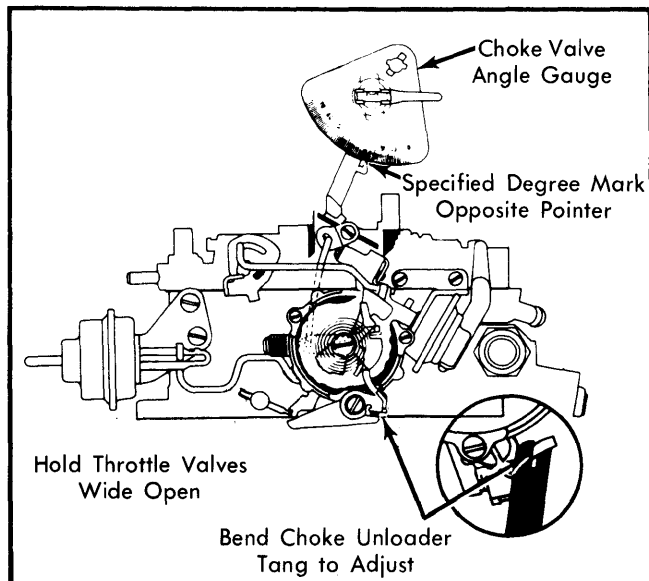

Fig. 11 Adjusting Choke Unloader
- 2) Hold throttle valves wide open. See Fig. 11. If engine is warm, close choke valve by pushing up on vacuum break lever tang. Hold in position with a rubber band.